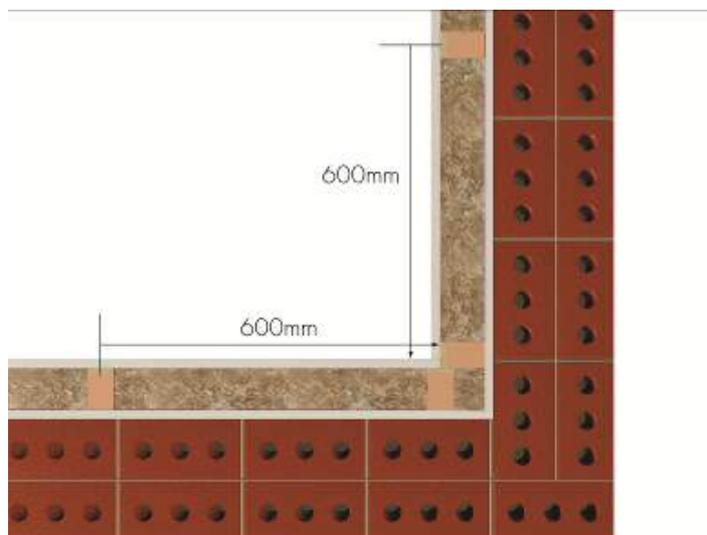

Fig 1
6.1 Internal corners should be installed in accordance with the detail below (Fig 1) and the corner void fully filled with EZY FIT Batt. The centre of the studs adjacent to the corner studs should be adjusted to accommodate the corner detail.